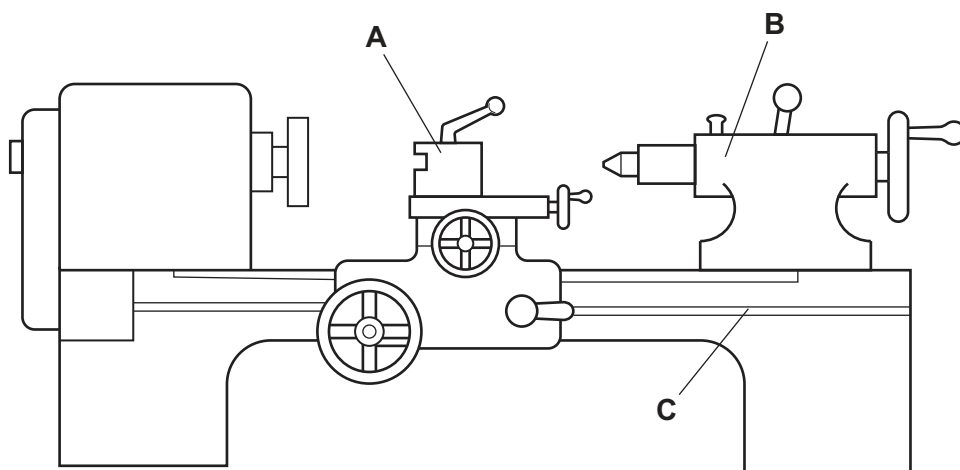

Figure 3.1
- 3 Figure 3.1 shows the outline details of a centre lathe.